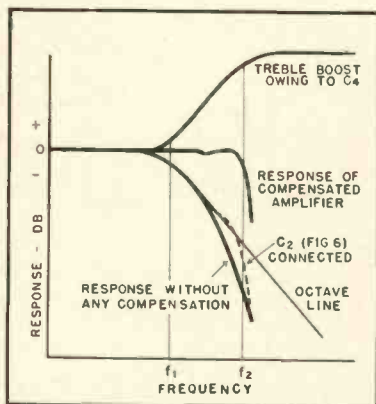

Fig. 8. Playback-amplifier output curves under various adjustment conditions.
(1) The playback amplifier output is plotted using a purely resistive feedback impedance  $R = R_6 + R_7$  (see Fig. 8).